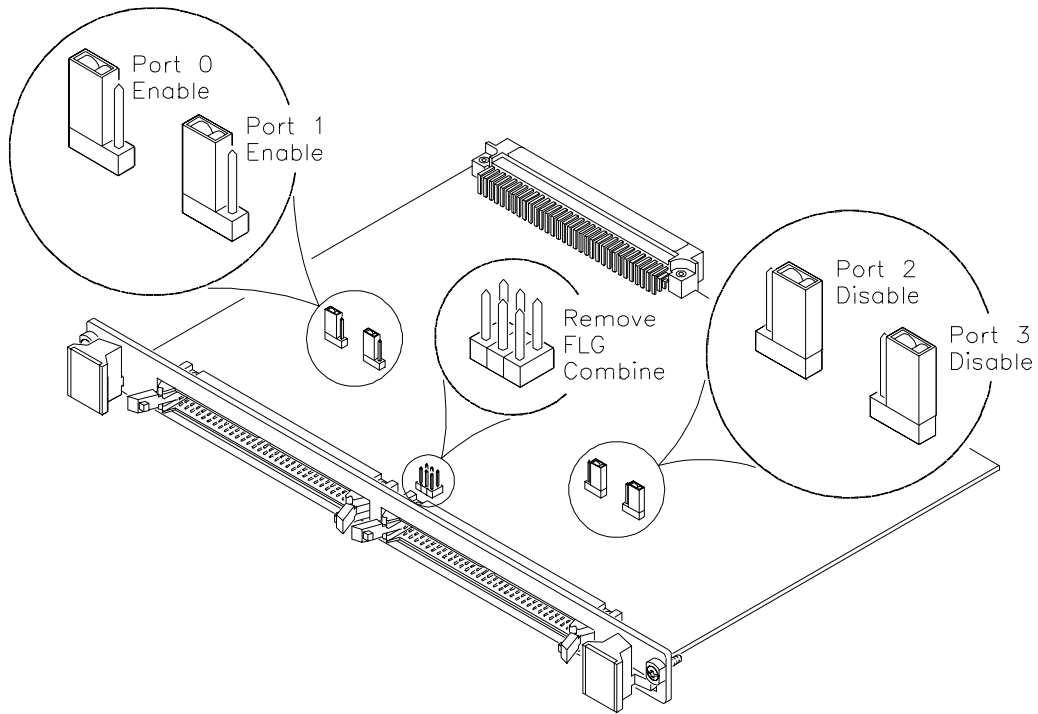

Figure 2-1. Jumper Settings
- Set Port 0 and Port 1 Pull-up Enable jumpers to the Enable position as shown in Figure 2-1.
- Set Port 2 and Port 3 Pull-up Enable jumpers to the Disable position as shown in Figure 2-1.